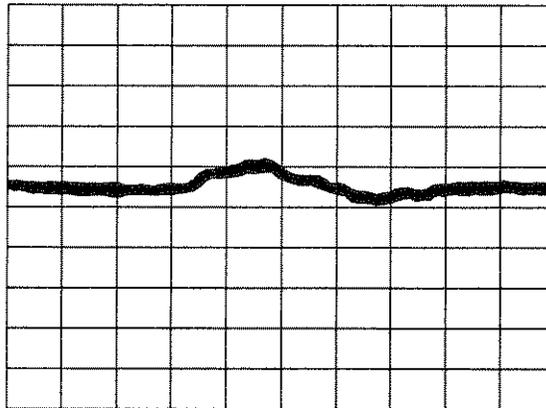

Figure 4-6. Residual FM Check
- 4A. Press [CENTER FREQUENCY] and use the Rotary Pulse Generator (RPG) control to keep the signal between the 5th and 8th division from bottom screen. Refer to Figure 4-6.